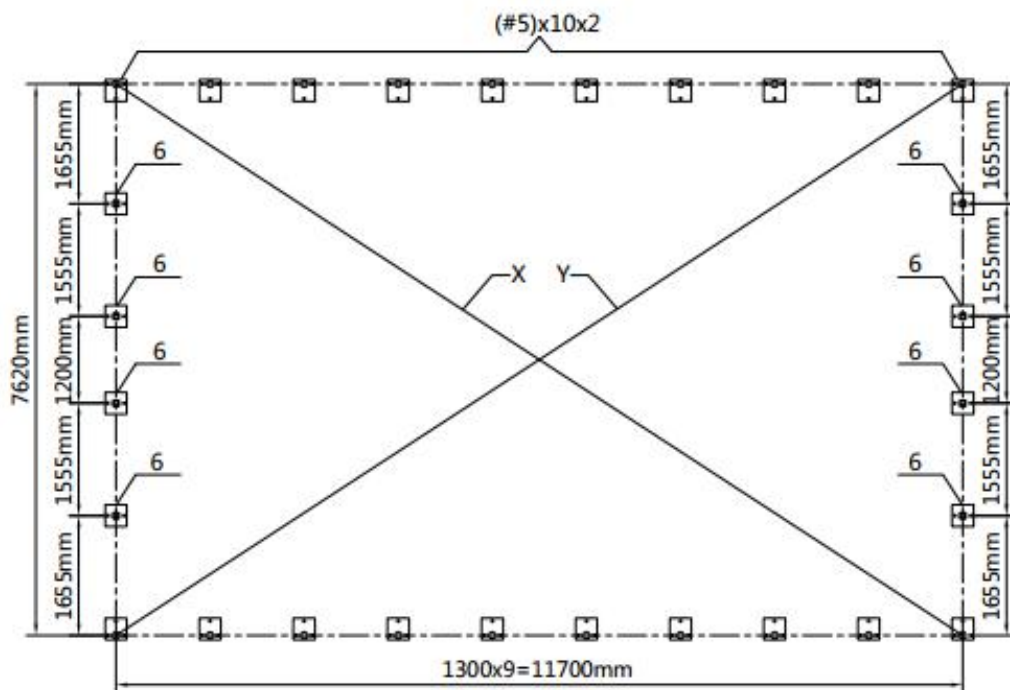

Figure 1
- Base plates : all base plates must be installed firmly with expansion bolts (#5B) on this step (refer to figure 1).
- (20) Base plate (#5)